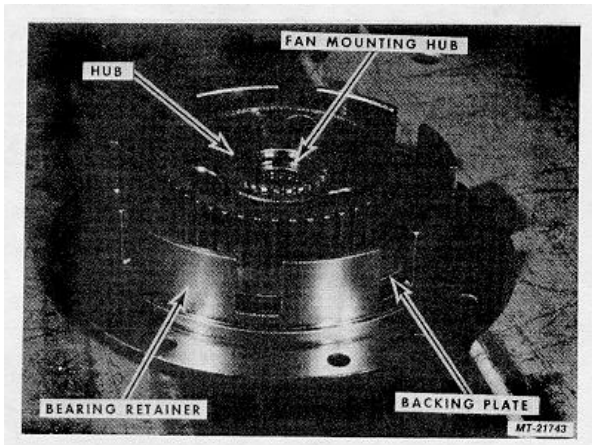

Fig. 51
14. Place the Hub and Backing Plate Assembly on the Fan Mounting Hub spline, Fig. 51.